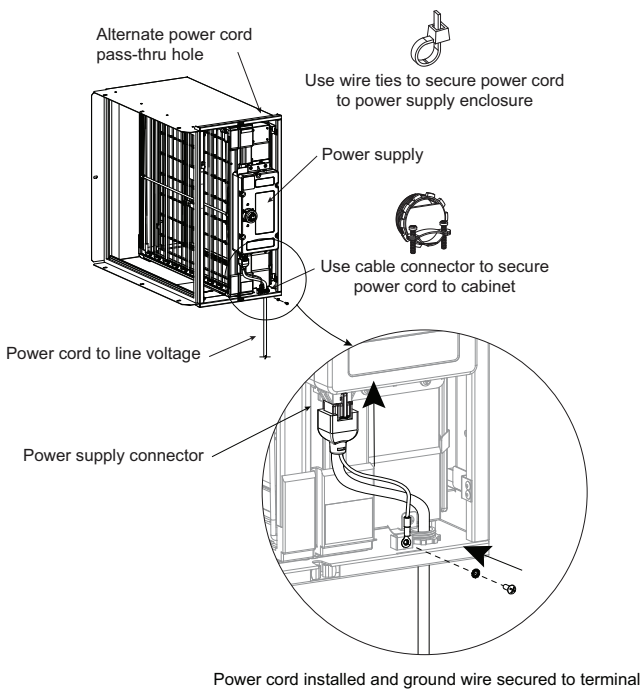

Fig. 11 - Power Cord Routing
- e. When connecting the power cord to the power supply module, the ground wire must be attached to the ground terminal on the cabinet (see Fig. 11).